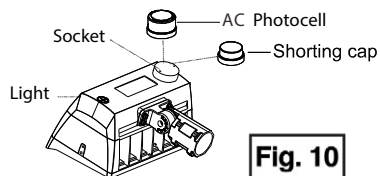

Fig. 10
1.) If photocell function is required, install the photocell (or other sensor compatible with the receptacle) into the 7-pin NEMA receptacle socket on the back of the luminaire. Otherwise, install a shorting cap into the socket (Fig. 10).